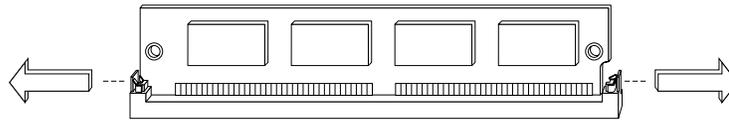

Figure 8-25 Releasing the Latches on the SIMM
8. With your thumbs, pull the latches away from the SIMM, as shown in Figure 8-25. The SIMM releases and tips away from you about 45 degrees.